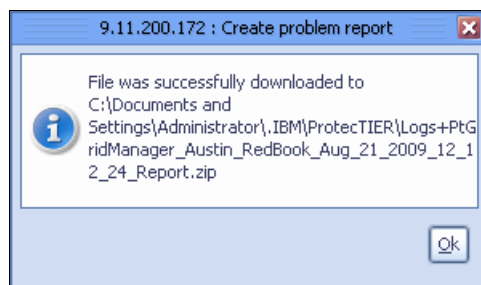

Figure 10-76 Package file path window
10. You can get the package file from the path displayed by the system (Figure 10-76).